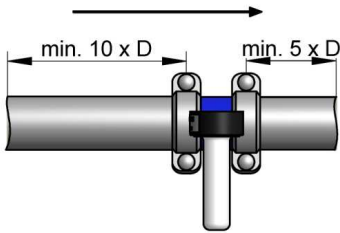

Fig. 4 Inlet path and outflow zone
Before and after the orifice plate a straight calming section is provided as a function of the nominal diameter (D). When using valves and fittings before the orifice plate, an inlet path of min.  $10 \times D$  is always required. For the standard version an inlet path of min.  $10 \times D$  and an outflow zone of min.  $5 \times D$  is required (fig. 4). The connected pipes have to be of the same size as the orifice plate.
For some flow ranges a special version for shortened inlet path of  $5 \times D$  and shortened outflow zone of min.  $2 \times D$  is available (fig. 4). Before installation, following conditions have to be observed: